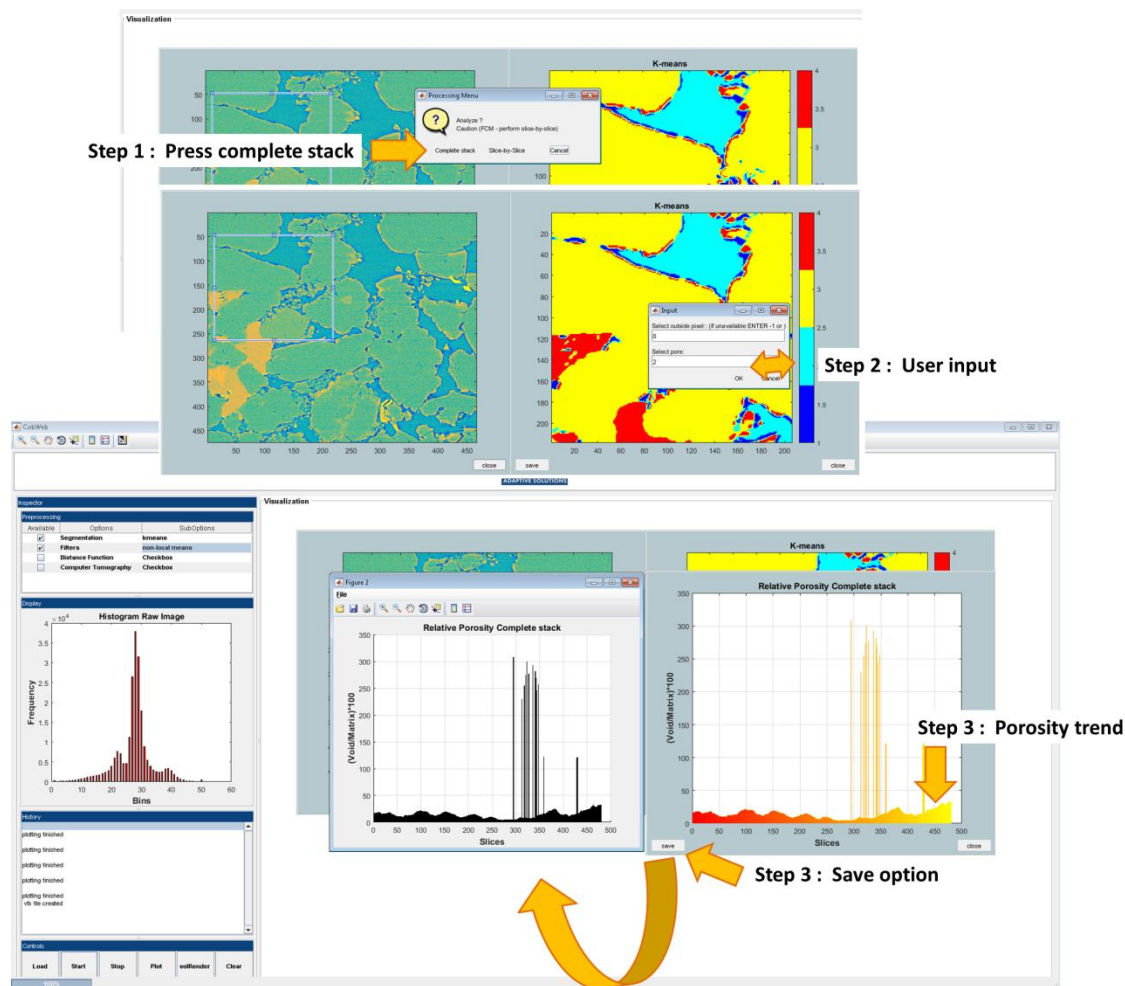

Figure 33: Porosity of complete stack
- Step 1 (Figure 33): The porosity of the REV can be plotted by clicking complete stack option.
- Step 2 (Figure 33): **Enter** the **cluster number** assigned to the **pore phase** and the noise phase. If the noise phase is not displayed or has not been assigned a cluster value, enter zero.
- Step 3 (Figure 33): By clicking the save option, the image can be exported into a desired image format.